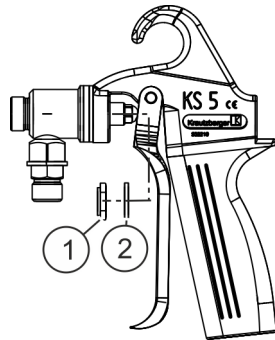

Fig. 26: Slide the insulating washer over the seal screw; screw head piece onto the seal screw using a hexagon nut
5.  Slide insulating washer (Fig. 26/2) over the seal screw and screw the head piece onto the sealing screw using the hexagon nut (Fig. 26/1), but do not tighten!